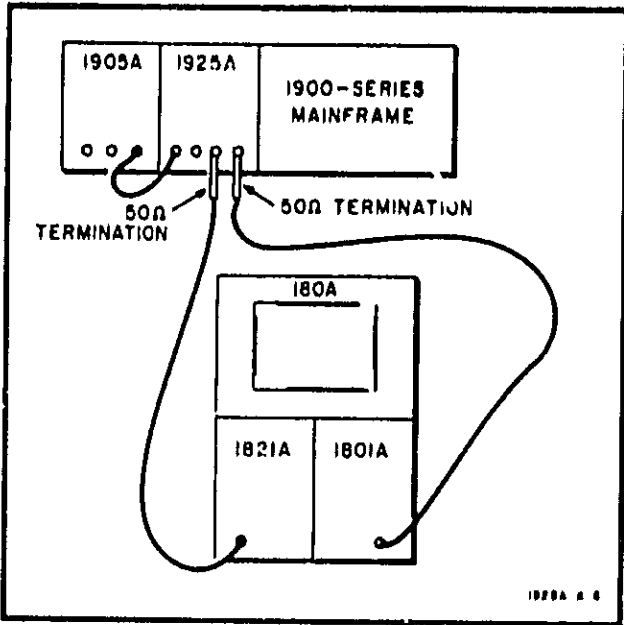

Figure 5-7. PGM Check Test Setup
a. Set the equipment and accessories as indicated in Figure 5-7.